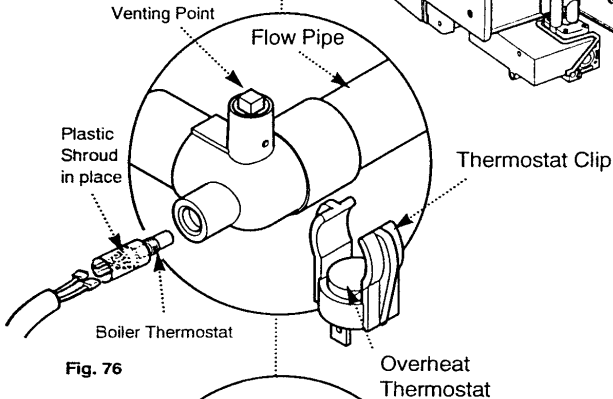

Fig. 76
3. The top flow connection incorporates the boiler thermostat, overheat thermostat and a venting point (Fig. 76).
5. Connect the two electrical tags of the thermostat lead to the connections on the thermostat - either wire can be connected onto either connection -there is no polarity (Fig. 76).
6. Remove the overheat thermostat and clip from the plastic kit bag. Engage the thermostat in the clip as shown (Fig 76). Prise the clip over the flow pipe as near to the vent as possible (Fig. 76 & 77).